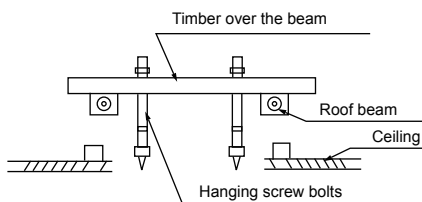

Fig.4-1
4.1 The units may be mounted vertically providing that the correct clearances for positioning are maintained. (Refer to Fig. 4-1)